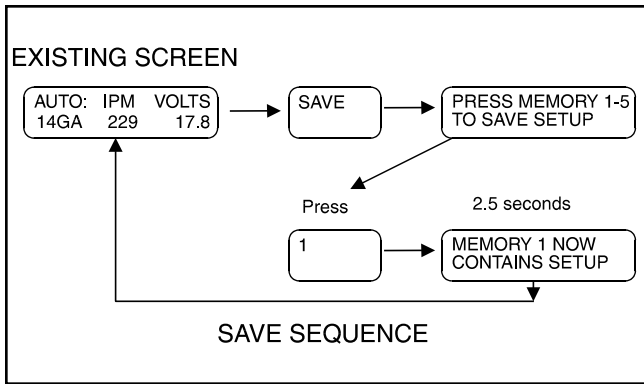

FIGURE B.3 - Sample SAVE Sequence.
6. SAVE KEY: Press to save the current set up. The process, procedure, and timer functions (if used) are saved to one of five memory locations by pressing one of the five memory keys. When the Save key is pressed, a prompting message instructing the operator to "PRESS MEMORY 1-5 TO SAVE SETUP" is displayed. See Figure B. 3 for sample SAVE sequence. This message remains displayed until a memory number key is selected or one of the other keys, such as Auto, Manual, or Process, is pressed. If a memory number key is selected, a message will be displayed for 2.5 seconds that confirms that the setup was saved to that memory number.